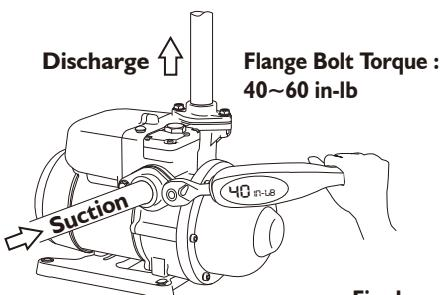

Fig. 1
3. Connect the suction pipe to the side and discharge pipe on the top.( See Fig 1 )